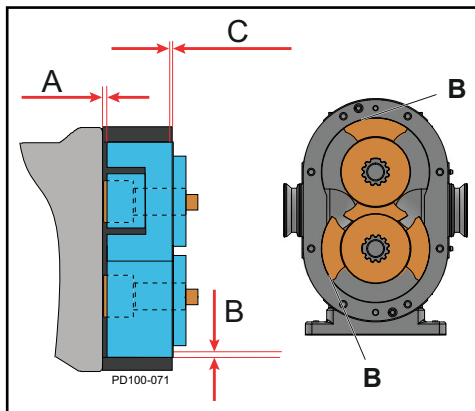

Figure 57 - Measure Clearance
9. Measure the rotor backface clearance (Figure 57, item A) through the port or from the front. The backface clearance for both rotors must be the same to prevent rotor crossover contact and must be $\pm .0005$ " of the value found in Table 10, "Rotor Clearances," on page 51.
10. Check the rotor front face clearance (Figure 57, item C).
11. Check the rotor to body clearance (Figure 57, item B).